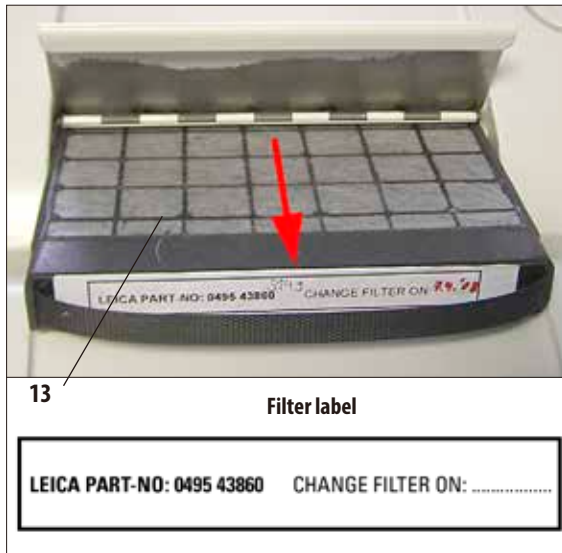

Fig. 233
- The filter (13) should be replaced after 45 days at the latest (Fig. 233).